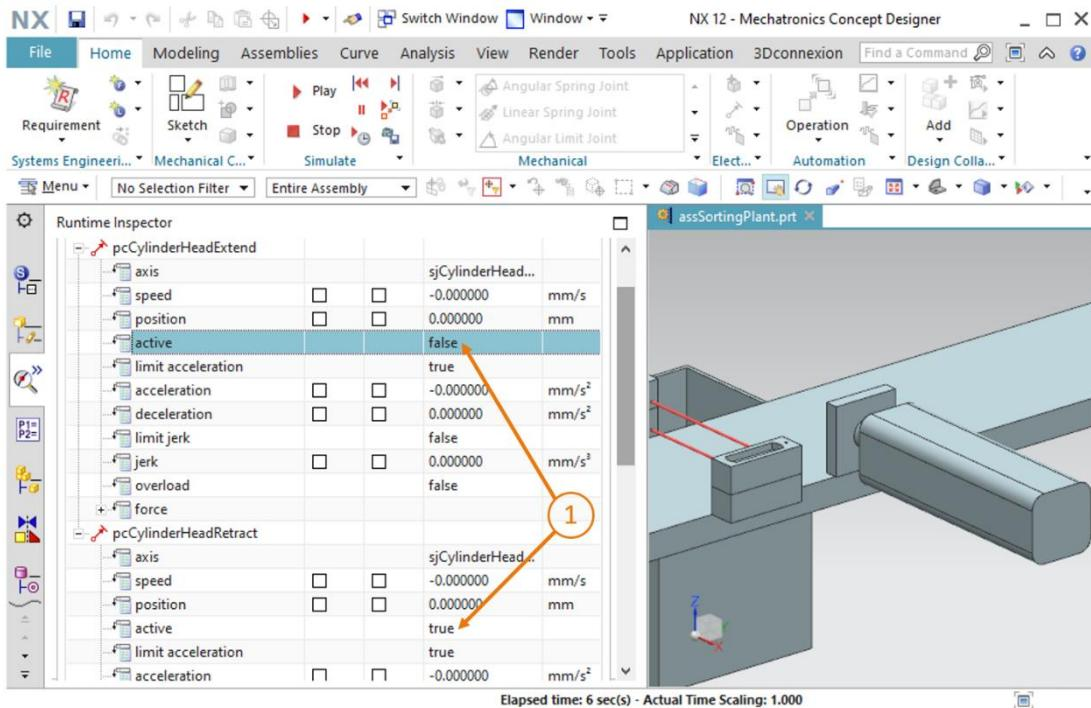

Figure 41: Simulation of the position controls of the ejector – Retracting is active
- On the other hand, if you deactivate extending again and instead set the **active** signal of "pcCylinderHeadRetract" to "true", the ejector head is retracted again (see Figure 41, step 1).